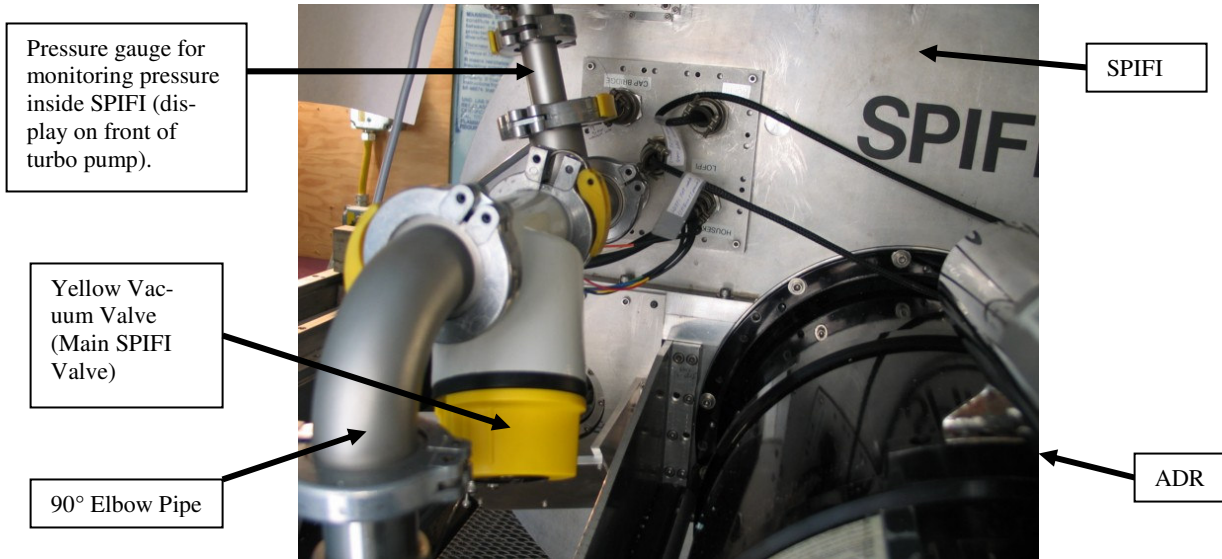

Figure 3: SPIFI Pump Manifold
1. The main pump valve on SPIFI (**55**), which is the big yellow-handled valve located above and to the left of the ADR/SPIFI interface, should be closed (see Figure 3 below). You shouldn't need to adjust it because we left it closed at the end of the summer. **Never open this valve if SPIFI is under vacuum and you suspect that the hose is not pumped down, or you could blow out the Fabry Perots!**